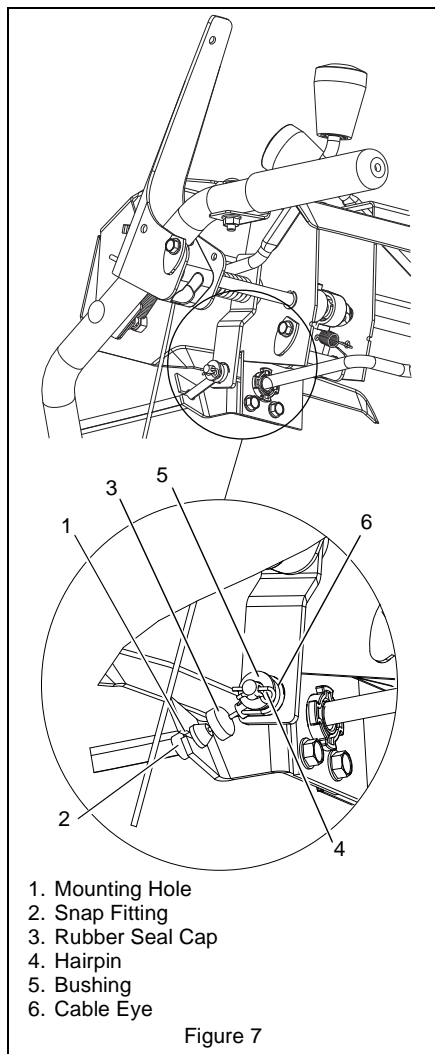

Figure 7
(Figures 7 and 8)
1. Pull rubber seal cap away from snap fitting (Figure 7).